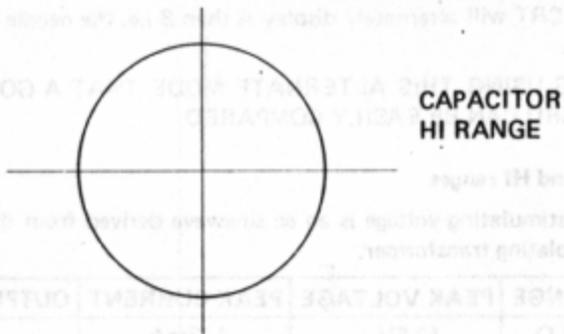

FIGURE 3
2. Since the test voltage is ac, capacitors and inductors will produce loops on the display as in Figure 3.